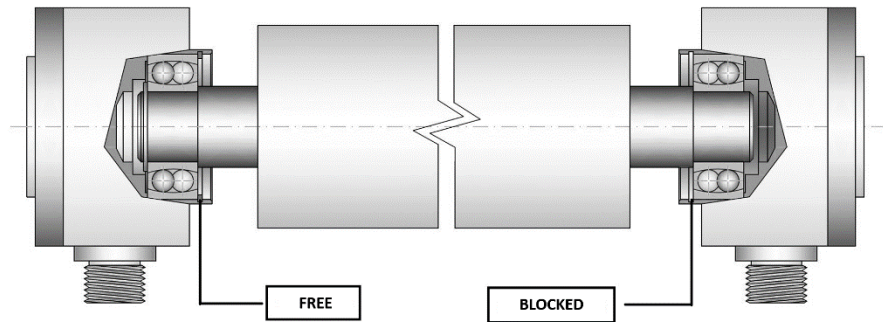

Figure 3
- The rolls have to be axially locked only at one end, while at the other end they have to be free to slide. *Figure 3*
- The rolls have to be axially locked only at one end, while at the other end they has to be free to slide. *Figure 3*